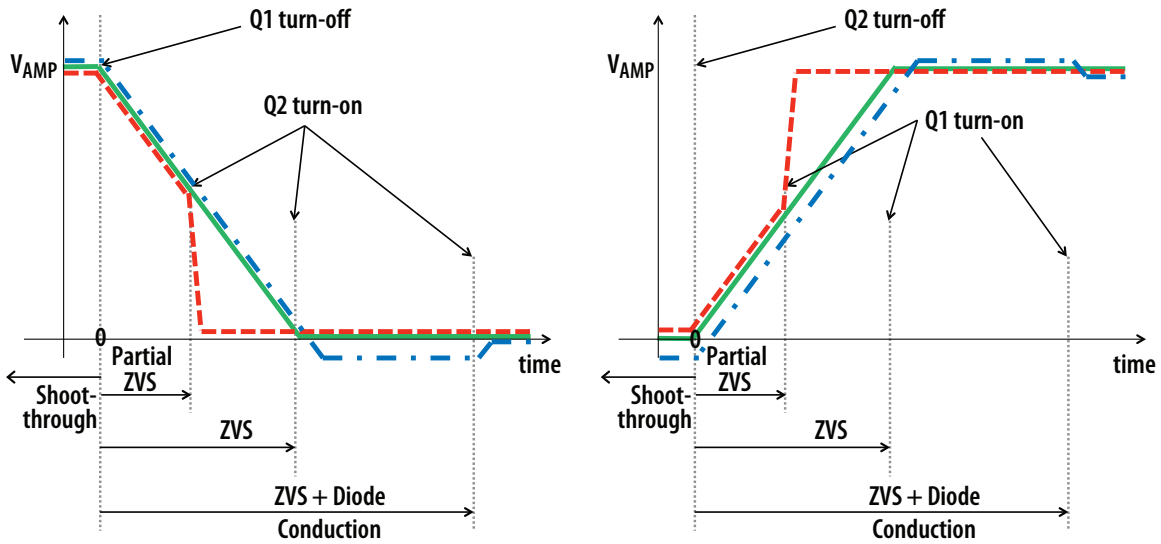

Figure 4: ZVS Timing Diagrams
Setting the correct time to establish ZVS transitions is critical to achieving high efficiency with the EPC9508 amplifier. This can be done by selecting the values for R74 and R75 respectively. This procedure is best performed using potentiometer P74 and P75 installed that is used to determine the fixed resistor values. The procedure is the same for both single ended and differential mode of operation. The timing MUST initial be set WITHOUT the source coil connected to the amplifier. The timing diagrams are given in Figure 4 and should be referenced when following this procedure. Only perform these steps if changes have been made to the board as it is shipped preset. The steps are:
6. While observing the oscilloscope adjust P74 for the rising edge of the waveform so achieve the green waveform of figure 4. Repeat for the falling edge of the waveform by adjusting P75.
**NOTE.** When measuring the high frequency content switch-node (Source Coil Voltage), care must be taken to avoid long ground leads. An oscilloscope probe connection (preferred method) has been built into the board to simplify the measurement of the Source Coil Voltage (J2 and J3 as shown in Figure 4).